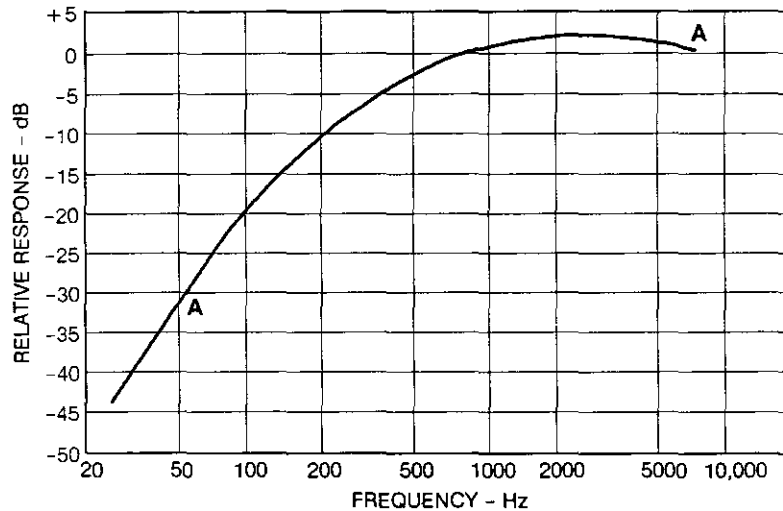

Figure 11. Response Characteristics of Standard A Filter
A microphone measures actual sound pressures emitted from a noise source, but the human ear doesn't treat equal levels with equal tolerance over the audible frequency range of up to 12,000 Hz. The ear is more sensitive to noise above 1000 Hz. This sensitivity is simulated by using the “A” scale filtering system in the signal processing of measured noise. This internationally standardized system gauges the ear's response to noise through the use of a passive frequency related filter placed between the microphone and output (Figure 11). The resulting energy, when summed in the respective weighted frequency bands, is then expressed in “A” scale, “A” weighted, or dB(A) levels.